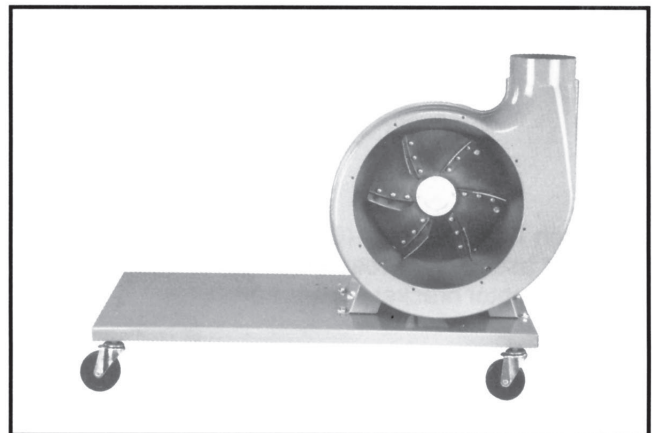

Fig. 2
2. Place base with rollers on the ground and attach motor and fan assembly to base using 4 hex cap bolts (M8x16) and 4 flat washers (5/16) (Fig. 2).